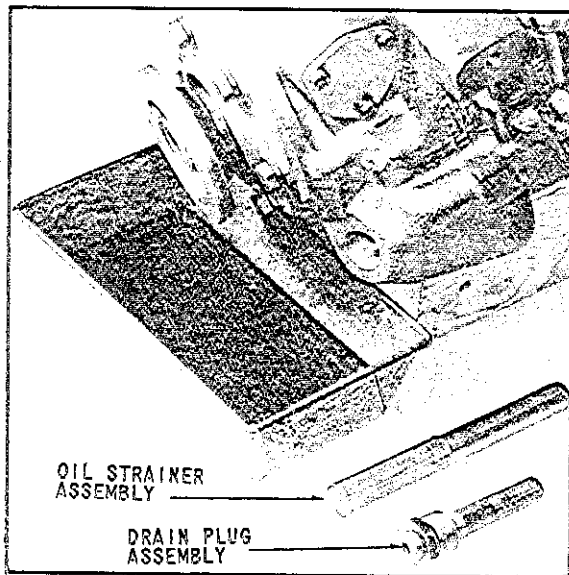

Fig. 18 Draining Transmission Oil
2. If space permits, place container having approximately two (2) quart capacity under drain cap, located as shown in (Fig.18). Unscrew the drain plug and cooler return tube assembly, reach into the opening with a suitable tool, and remove the strainer assembly, (Fig. 77). Allow oil to drain into pan.